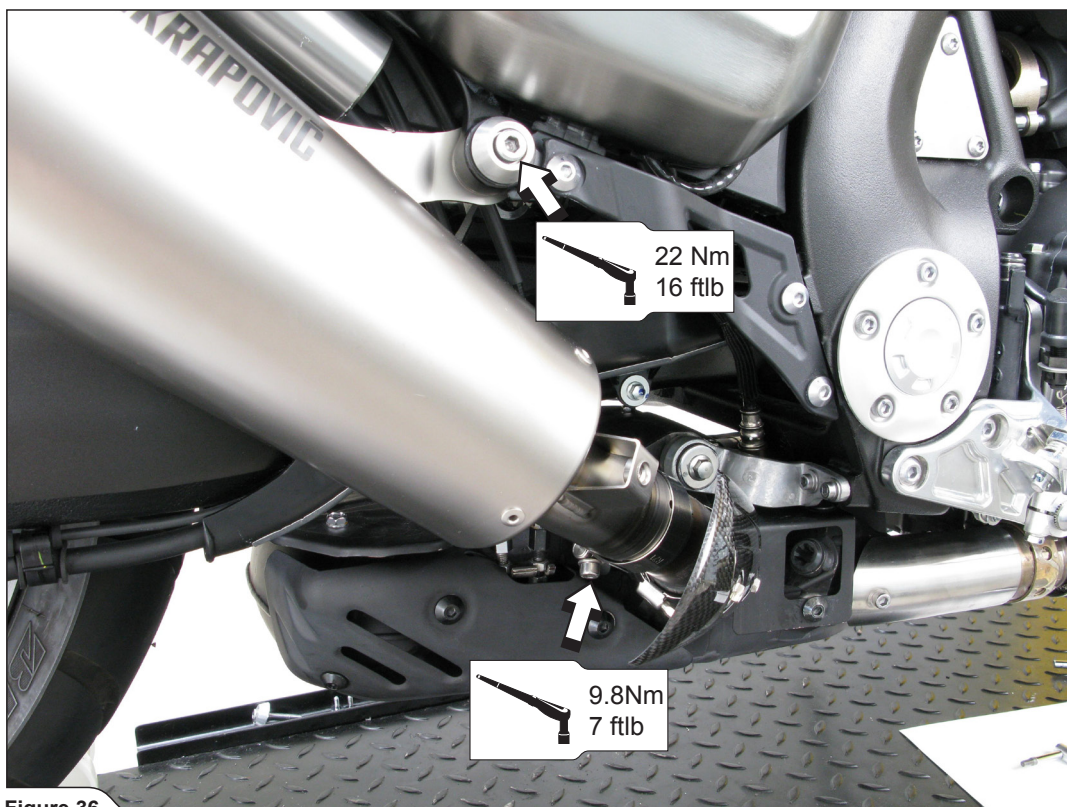

Figure 36
11. **For BOTH SLIP-ON systems:** position the mufflers correctly, slide them onto the outlet sides of the catalytic converter box or Akrapovič collector. Align the mufflers in respect to the motorcycle and tighten the metal clamps and the bolts of the muffler brackets using stock bolts and Akrapovič nuts (**Figure 36**). Tightening torque for bolts of stock muffler brackets: 22Nm/16 ftlb. Tightening torque for metal clamps: 9,8Nm/7ftlb.